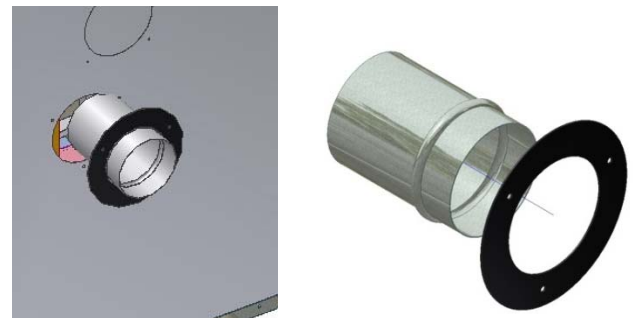

Figure 14
- Insert the fresh air adaptor (Figure 14).